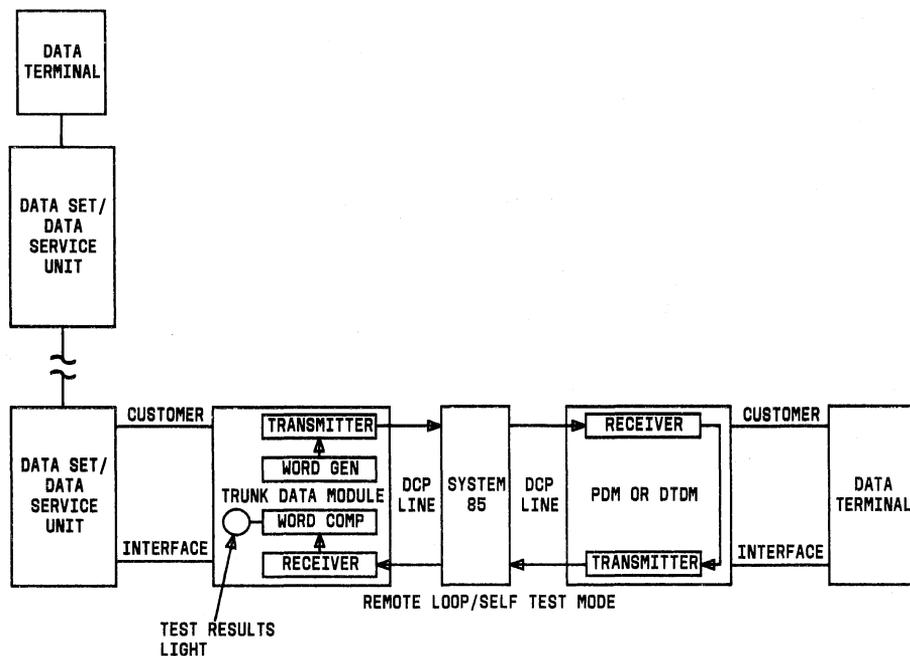

Fig. 12—Remote Loop/Self-Test Diagram
3.16 This test (Fig. 12) can be performed by moving the LOC LOOP/REM LOOP switch to the REM LOOP position after a call has been set up to put the remote module into remote loop. The SELF TEST switch is now moved to the SELF TEST position. The module will generate a known bit sequence and will transmit it to the remote module where the data will be looped back prior to the EIA interface of the remote module. The local module, upon receiving the bit sequence, checks it with the transmitted bit sequence for error. The TEST RSLT (TEST RESULT)